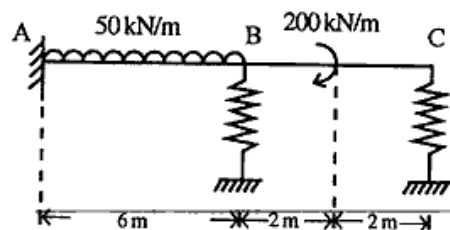

Figure 5
5. Analyse the continuous beam of figure 5 by displacement method. The beam rests on elastic supports at B and C. The flexibilities of supports B and C in KN-m are $\frac{100}{EI}$ and $\frac{300}{EI}$ respectively.